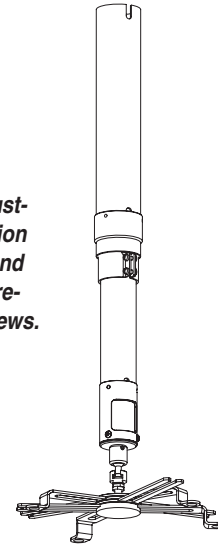
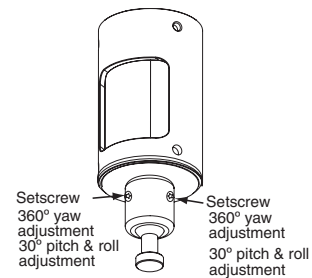

Figure 2
Figure 3
- ② Screw Outer Column (2" NPT pipe), Fixed Column (1½" NPT pipe) or Flush Extension into Suspended Ceiling Panel (See Fig. 2—Adjustable is shown; also typically for Fixed or Flush Extension).
- ③ For adjustable mounts, attach positive stop to upper end of Inner Column, then slide Inner Column down through Extension Adapter. Tighten Extension Adapter using two 10-32 x 5/8" torx screws and #10 washers.
- ④ For adjustable mounts, install Extension Adapter and Inner Column assembly to Outer Column. Secure with one 10-32 x 5/8" torx screw. For increased security, replace the standard screw with a security screw (provided).
- ⑤ Attach Bracket Adapter and Ball Joint Assembly to Inner or Fixed Column or Flush Extension and secure with provided screw. For increased security, replace the standard screw with a security screw (provided). For additional security, remove the three standard screws holding the Ball Joint in the Bracket Adapter, and replace with provided security screws. For Adjustable mounts, you can also replace the adjustment screws in the Extension Adapter with provided security screws.
- ⑥ Suspend the Suspended Ceiling Panel and mount assembly using wire and turnbuckles (provided). In addition, anchor the panel to the adjoining ceiling tile grid work using two screws per side. This will help stabilize the ceiling panel.
- ⑦ If appropriate, run cabling down through pipe and out through opening in Bracket Adapter. J-box knockouts are also provided in the panel.
- ⑧ Install Universal Projector Bracket on projector if applicable (see separate instructions). Then, attach bracket and projector to Accuset ball joint. Adjust as necessary (see Fig. 3).